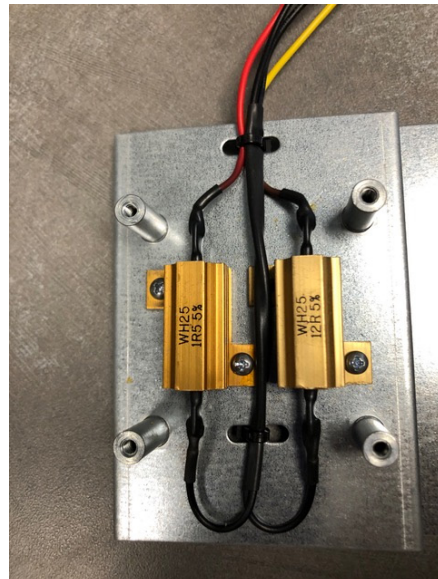
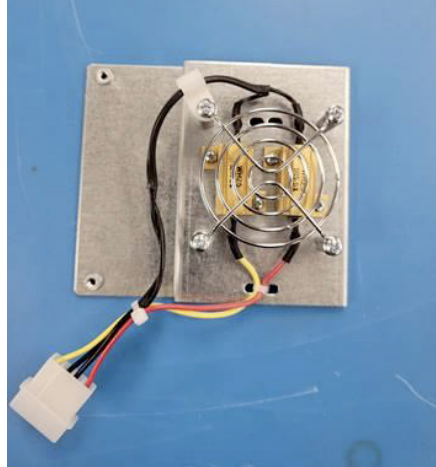

Figure 3: Original routing of shunt wiring.
Figure 4: New routing of the ground wires to the shunt resistor.
The original routing of the wires (Figure 3) has the wires routed through the two resistors. The new routing includes moving the black ground wires to the left of the resistors (Figure 4).
10. Route and secure the wires onto the plate and protective cover and secure as shown in Figure 4.